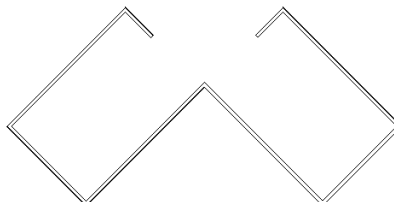

Figure 3-49 The sketched inclined wall exterior profile
10. Now, create the next two wall segments of lengths **60'(18288 mm)** and **14'(4267 mm)** to complete the inclined wall exterior profile, as shown in Figure 3-49.